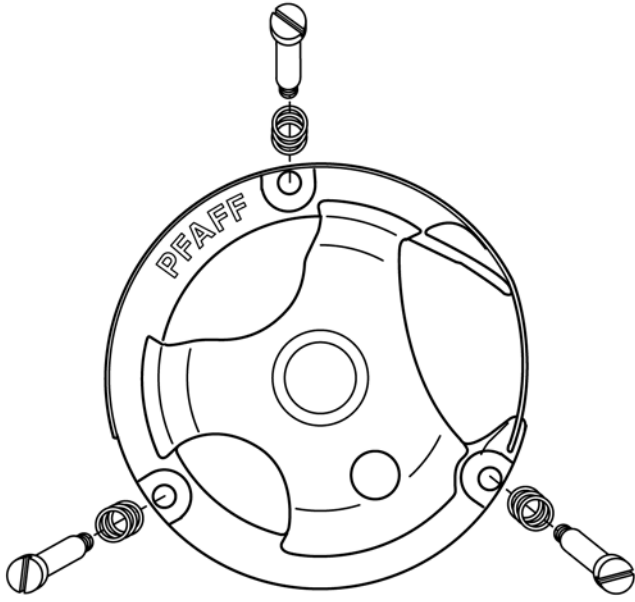

Fig. 69
- Take out the three screws with springs from behind (fig. 69).
- Fasten the sewing hook gib from behind with three screws with springs (fig. 69).